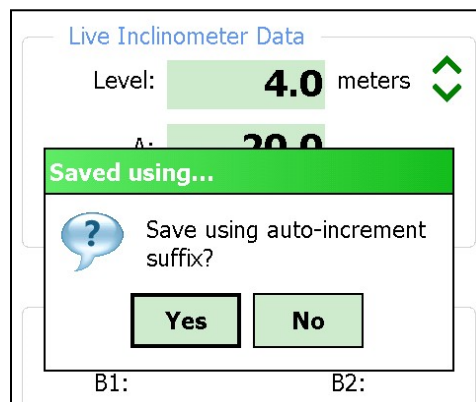

Figure 75 - Auto Increment Save
- 12) If “Yes” is selected, then another dialog box will be displayed giving the choice of saving with the auto-increment suffix on the standard filename (Figure 75). Selecting “Yes” again causes the save operation to be carried out using a filename of the form: *[Hole_Name][3 digit AutoIncr_Suffix].GKN*